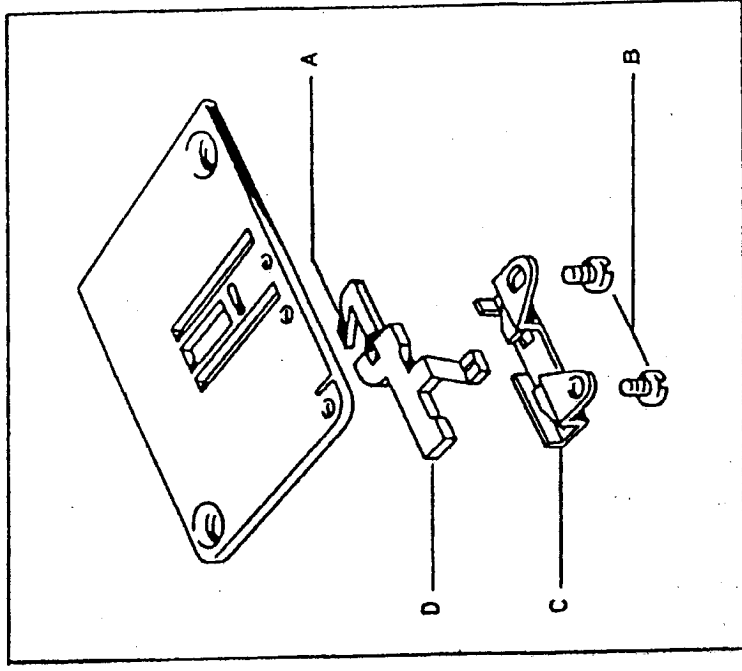

Fig. 28
29. NEEDLE PLATE MODIFIED WITH TACKING DEVICE (fig.28)